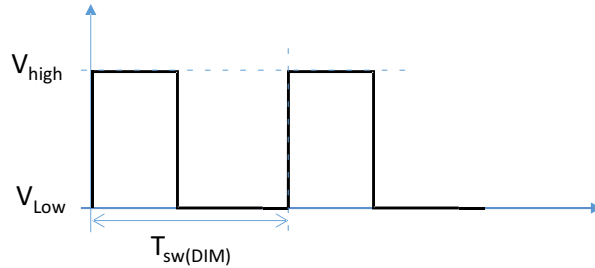

Figure 5. Dimming Signal
2. Set the waveform generator as follows: square signal waveform with  $V_{\text{high}} = 10 \text{ V}$ ,  $V_{\text{low}} = 0 \text{ V}$ , 4 ms period ( $T_{\text{sw(DIM)}}$ ), inverted polarity (see Figure 5). Set duty-ratio as indicated in below table.